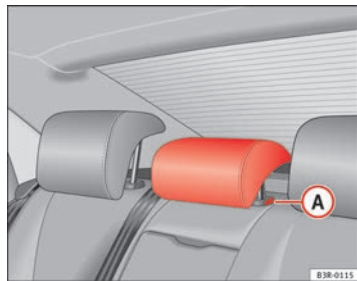

Fig. 113 Centre rear seat:
- Press button **A** ⇒ fig. 113 and lower the head restraint.
- Press button **A** ⇒ fig. 113 and pull out the head restraint.